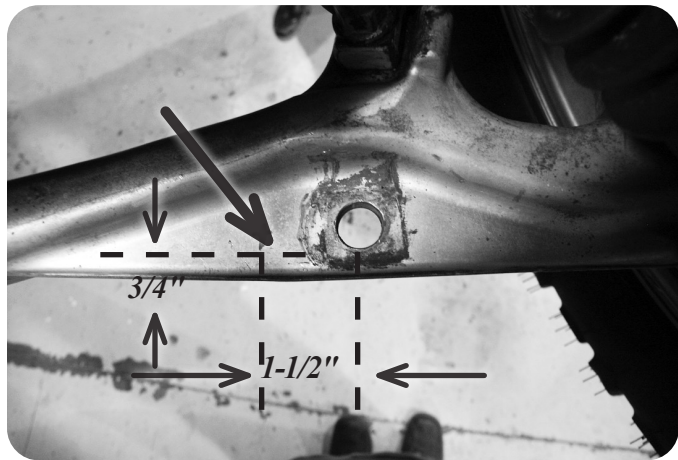

Figure 18
38. Locate the original sway bar link mounting hole on the lower control arm. Measure inward from the center on the hole 1-1/2" (toward the frame mount) and mark. Measure in from the back edge of the control near the first mark 3/4" and mark. Where the two marks cross drill a 5/8" hole Figure 18.